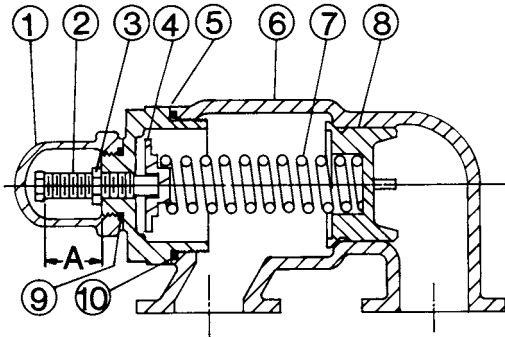

FIGURE 12
2. Measure and record the length of extension of the adjusting screw. **Refer to "A" on Figures 12 and 13.**